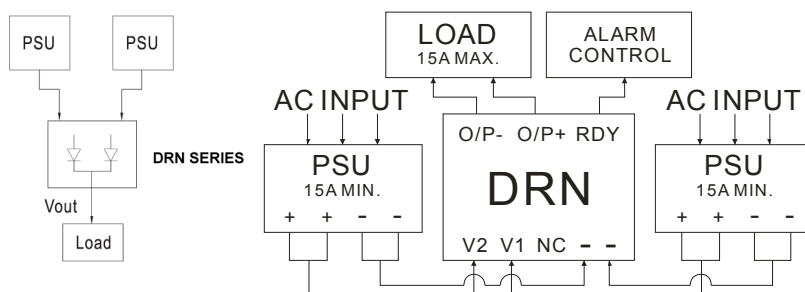

Figure 1
1. Standard Current Connection: The maximum output current is limited by DRN, see Figure 1. Two switching power supplies (PSUs) are connected to DRN series V1 and V2 respectively, with the positive to the positive of the power supply and the negative to the negative of the power supply. Two PSUs supply power to the equipment (load) at the same time when both of them are normal. When one of the power supply is faulty and the other one continues to supply power to the equipment (load), a fault alarm will be generated, the DRN will alarm the buzzer, send the RDY signal, and the panel indicator light will go out corresponding to the faulty power supply.